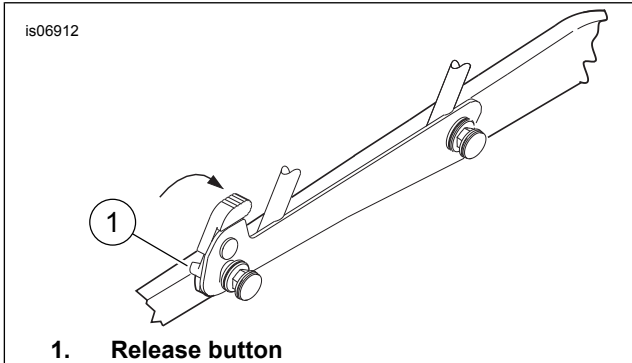

Figure 13. Close rotary latches by pushing latch fully forward.
3. Push downward and close the rotary latches by pressing the latch lever as far forward as it will go as shown Figure 13. You will hear a click when the latch is in place. **If the latch does not easily close, do not force.** Recheck alignment as described in Step 2.